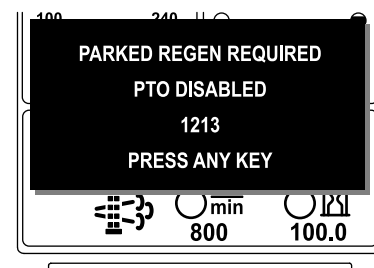

Figure 48
- If you do not perform a parked regeneration within 2 hours, the InfoCenter displays parked regeneration required—power takeoff disabled ADVISORY #1213 (Figure 48).